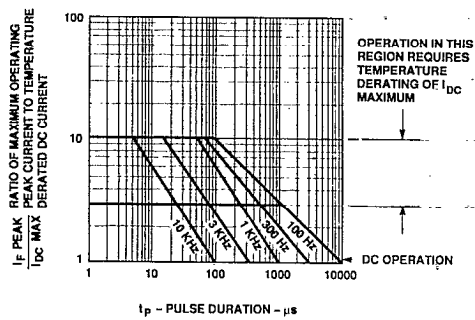

Figure 7. Maximum Tolerable Peak Current vs. Pulse Duration - HER Series.
5. See Figure 7 to establish pulsed conditions.